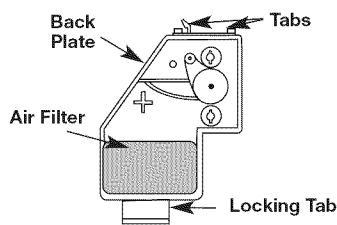

Fig. 28
- Reinstall the air filter cover. Position the slots on the top of the air filter cover onto the tabs at the top of the back plate (Fig. 28).